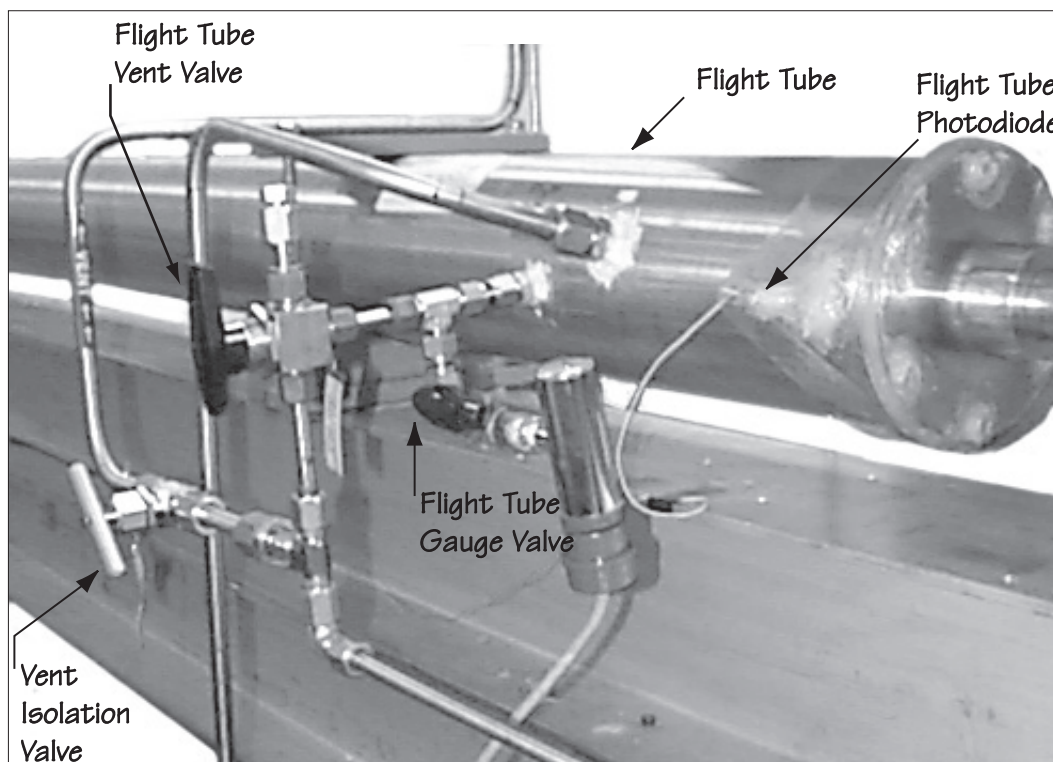
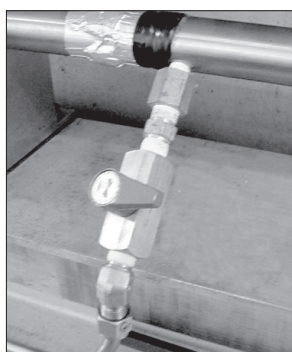

Figure 4.1-20
Figure 4.1-21.
**4.1.17.1.** On the back of the gun, **ensure** that the **Flight Tube Vent Valve** (Figure 4.1-20) and the **Pump Tube Valve** (Figure 4.1-21) are closed.
**4.1.17.2.** On the back of the gun, **open** the **Pump Tube Vent Valve** (Figure 4.1-1) and the **Vent Isolation Valve** (Figure 4.1-20).